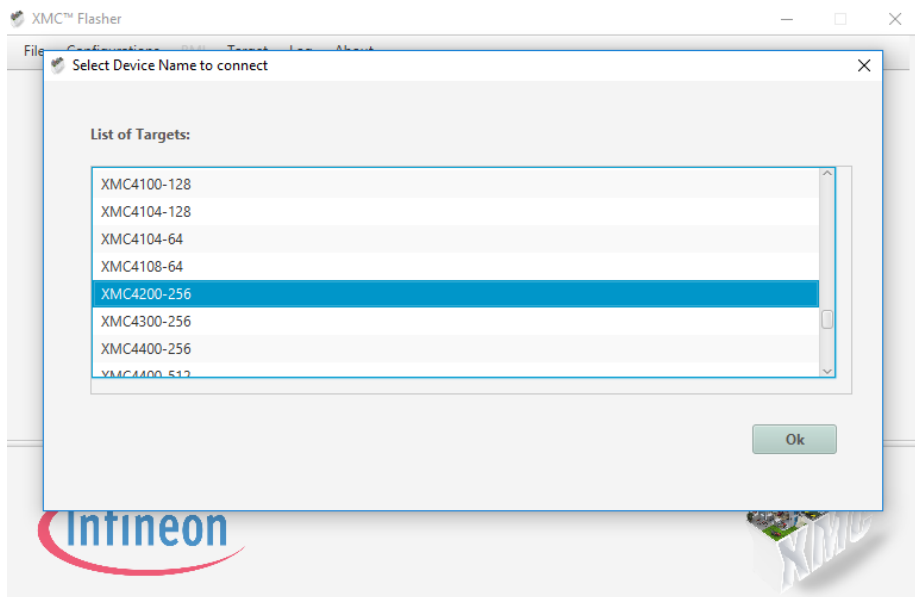

Figure 7. XMCFasher Device Selection Window
**Step 5.** With the OPS241/OPS242 connected to the PC, press the Connect button on XMCFasher. A pop-up window like that in Figure 7 will appear. Scroll down and select the XMC4200-256 and press Ok.